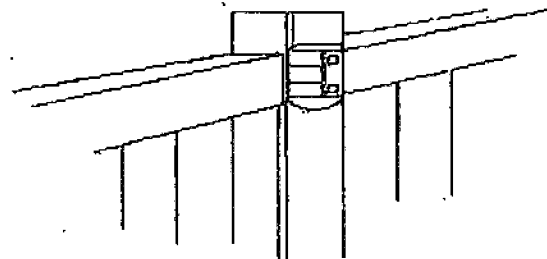

FIG. 12
Step 6. Once all the pickets are installed, slide the loose rail end into the post (fig. 12). The notched end will lock into the post. Repeat these steps until all panels have been assembled.